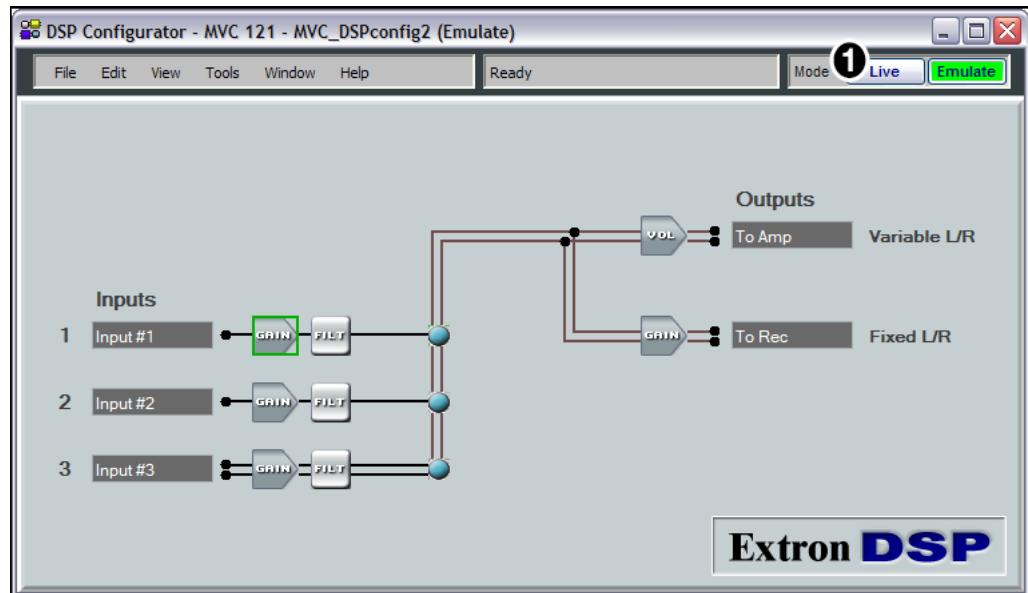

Figure 47. Main DSP Configuration Screen at Startup
1. Click the Mode **Live** button (see **figure 47**, ① on the previous page). The **Connect to device** dialog box opens.